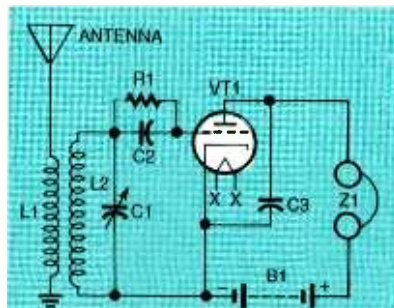

FIG. 4—TUNED-CIRCUIT RECEIVER with grid-leak detection.
The tuned inductive-capacitive (LC) "tank" circuit in the receivers shown so far permitted discrimination between desired and undesired signals. Figure 4 is a simplified schematic for a tuned radio frequency (TRF) circuit with grid-leak detection. The voltage induced in the antenna caused a current to flow through the primary coil L1 of the radio frequency transformer. A voltage was induced in the secondary coil L2, which was tuned by variable capacitor C1 to resonance at the desired station frequency.